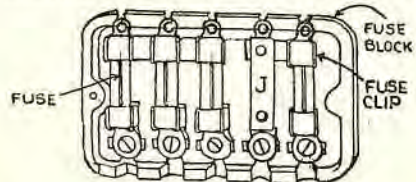

Fig. 21. Fuse block.
Fuse blocks (Fig. 21) are usually placed inside of the cowl (dash), under the hood of the engine, or in the form shown in Fig. 22, which is placed on the cowl, and to which the different wires of different circuits are connected.
On many cars where fuse blocks are used, it will be found that, although there are fuse clips provided for fuses, a "jumper" (J) (Fig. 21) of copper wire is placed in the clips instead of fuses, in all circuits except the horn and lighting circuits.